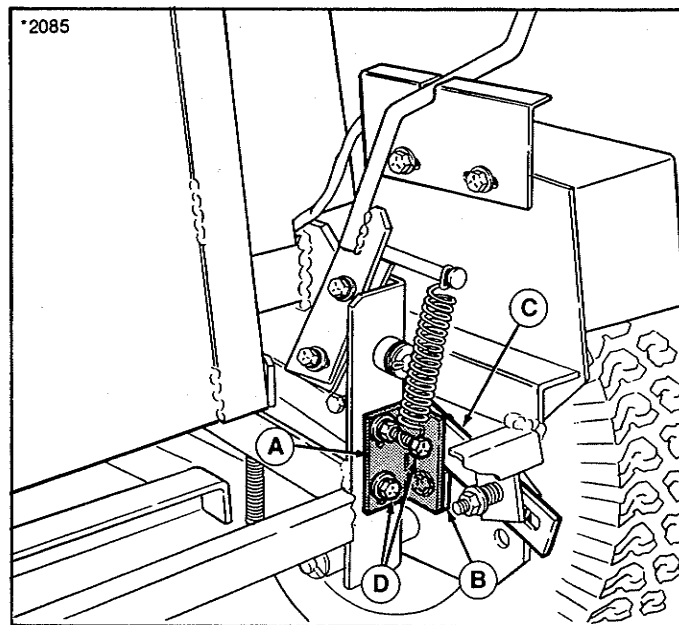

Figure 24.
If one transmission is slower than the other with the same control lever travel, the bracket (A, figure 24) holding the transmission link (B) and friction bar (C) can be adjusted. The bracket is slotted and is adjusted by loosening the capscrews (D) and moving the bracket. Raising the bracket will increase the transmission speed. This adjustment must be made by trial and error since the machine cannot be operated while the adjustment is being made.